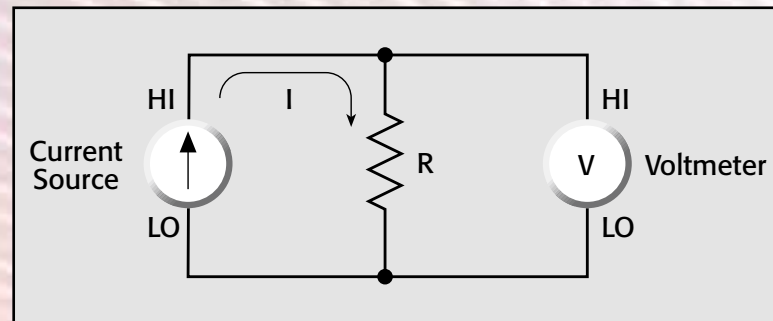

Figure 14: Constant-Current Method Using a Separate Current Source and Voltmeter
The basic configuration for the constant-current method is shown in **Figure 14**. Current from the source (I) flows through the unknown resistance (R) and the voltage drop is measured by the electrometer voltmeter (V). Using this method, resistances up to about $10^{12}\Omega$ can be measured. Even though the basic procedure seems simple enough, some precautionary measures must be taken. The input impedance of the voltmeter must be high enough compared with a source resistance to keep the loading error within acceptable limits. Typically, the input impedance of an electrometer voltmeter is about $10^{14}\Omega$. Also, the output